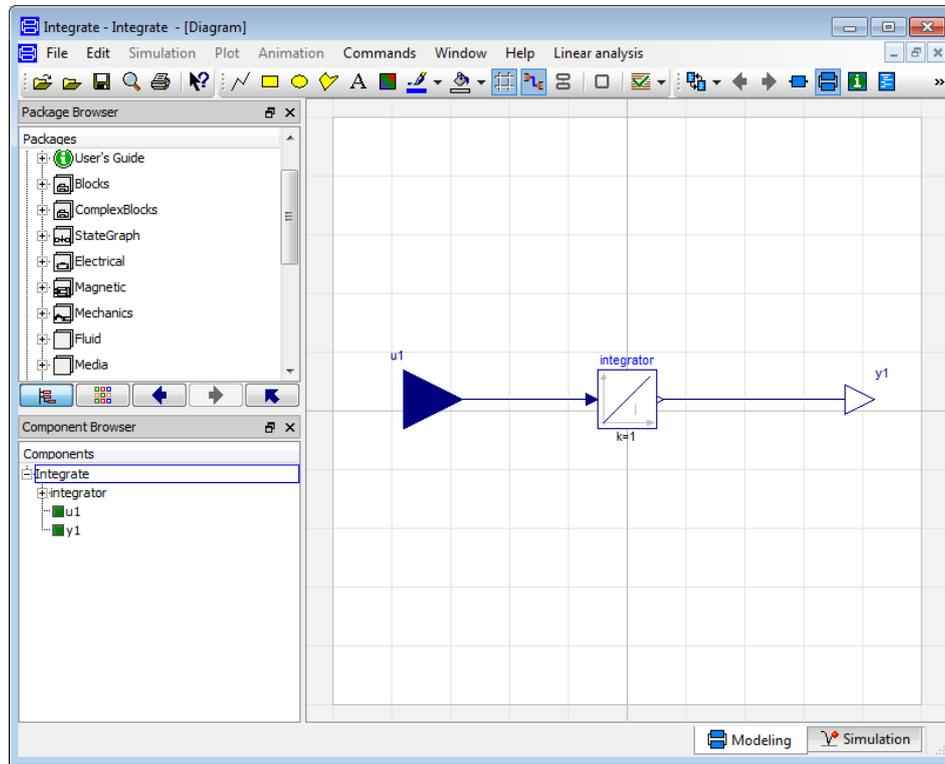

Figure 3.40 Block diagram view of the FMU model in Dymola.
1. The source code FMU that is used in this example is generated with Dymola 2014. The model can be seen in the block diagram in Figure 3.40 . The model has one input signal and output signal where the output signal is equal to the integrated input signal. Make sure that Dymola exports the model as an FMU for Model Exchange 1.0 and includes the source code for the model.